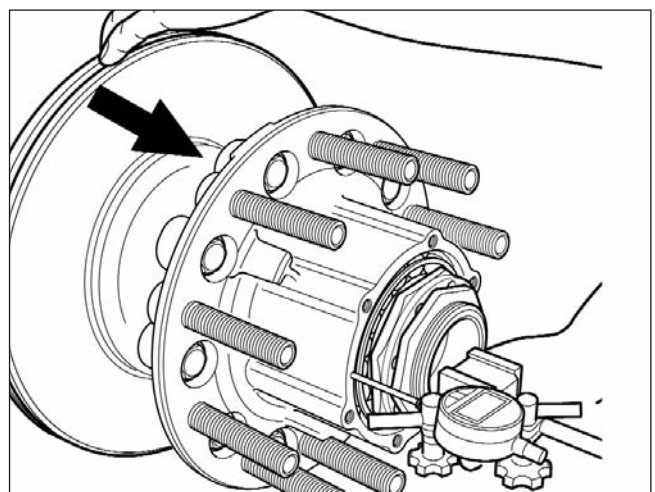

Fig. 4.20
- C. Slightly rotate the wheel end in both directions while pulling outward until the dial indicator does not change. (Fig. 4.20).